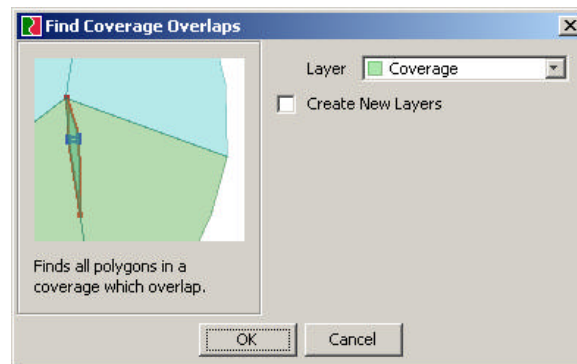

Figure 3-12 - Find Coverage Overlaps dialog
- Invoke the Overlap Detection function by choosing QA / Find Coverage Overlaps... (see Figure 3-12 below).